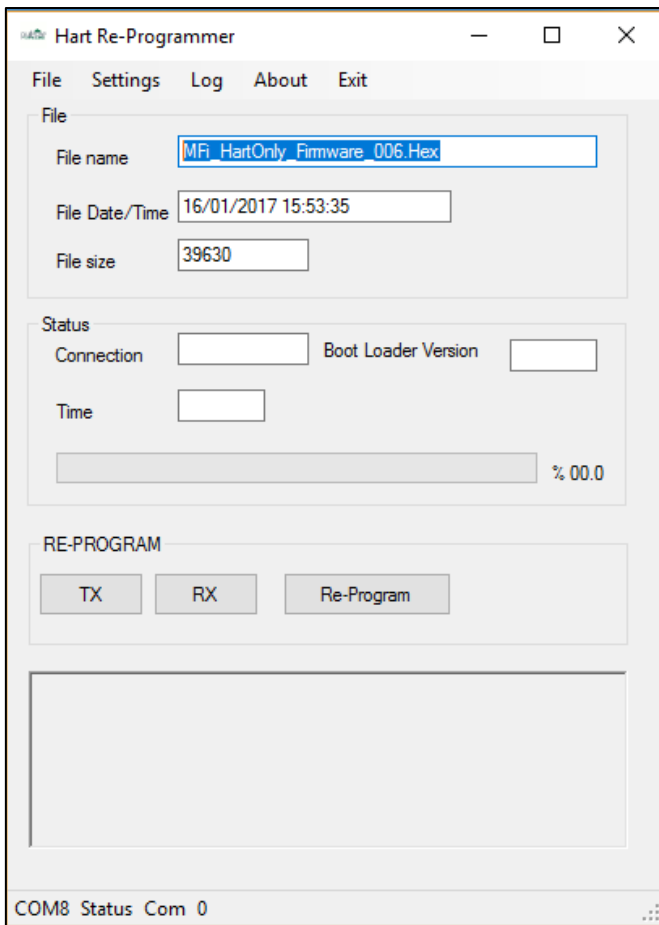

Fig.11
4. Select Tools > Run HART Bootloader Control, which will then open the Bootloader control interface window as seen in Fig.11.